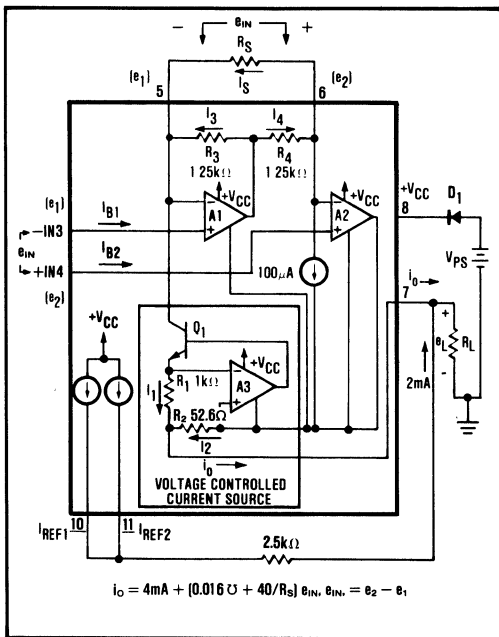

FIGURE 1. Simplified Schematic of the XTR101.
A simplified schematic of the XTR101 is shown in Figure 1. Basically the amplifiers, A₁ and A₂, act as a single power supply instrumentation amplifier controlling a current source, A₃ and Q₁. Operation is determined by an internal feedback loop. e₁ applied to pin 3 will also appear at pin 5 and similarly e₂ will appear at pin 6. Therefore the current in R_S, the span setting resistor, will be $I_S = (e_2 - e_1)/R_S = e_{IN}/R_S$. This current combines with the current, I₃, to form I₁. The circuit is configured such that I₂ is 19 times I₁. From this point the derivation of the transfer function is straightforward but lengthy. The result is shown in Figure 1.
The basic connection of the XTR101 is shown in Figure 1. A difference voltage applied between input pins 3 and 4 will cause a current of 4mA to 20mA to circulate in the two-wire output loop (through R_L, V_{PS}, and D₁). For applications requiring moderate accuracy, the XTR101 operates very cost-effectively with just its internal drive transistor. For more demanding applications (high accuracy in high gain) an external NPN transistor can be added in parallel with the internal one. This keeps the heat out of the XTR101 package and minimizes thermal feedback to the input stage. Also in such applications where e_{IN} full scale is small (<50mV) and R_{SPAN} is small (<150Ω), caution should be taken to consider errors from the external span circuit plus high amplification of offset drift and noise.
7. It is recommended that a reverse polarity protection diode (D_1 in Figure 1) be used. This will prevent damage to the XTR101 caused by a momentary (e.g., transient) or long term application of the wrong polarity of voltage between pins 7 and 8.